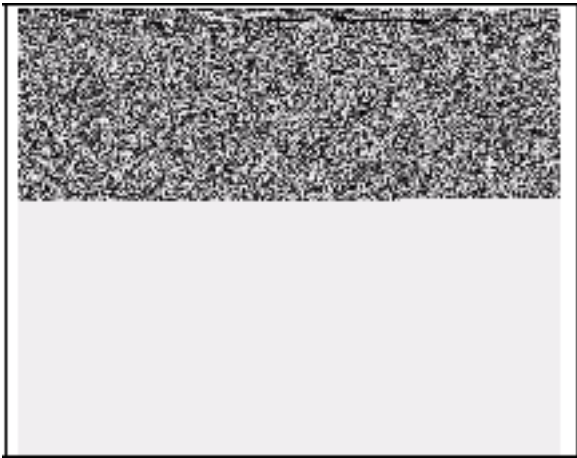

Fig. 131
Location of the part number (A) Fig. 131).